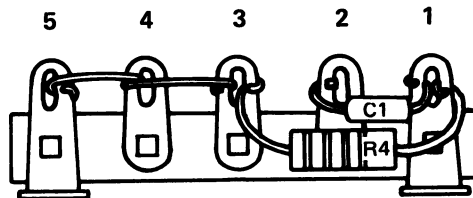

Figure 1 - Assembly of TB1
Assembly of TB1 (See Figure 1).
- ☐ Check the test adapter carefully and remove any loose bits of solder or wire clippings. Check the assembled test adaptor against Figures 1 through 7 for any wiring mistakes. Check all solder connections.